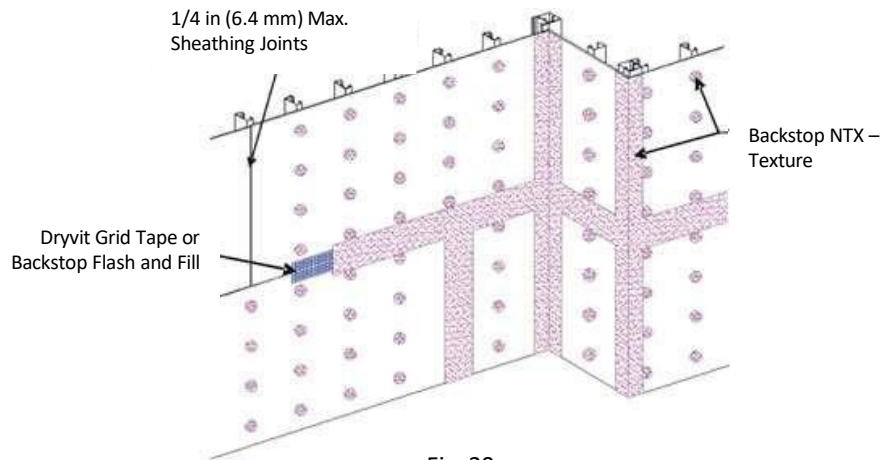

Fig. 20
4. Mix the Backstop NTX – Texture material as described in Section 3.B.2. Using a stainless steel trowel or spatula, apply a layer of Backstop NTX – Texture over the Dryvit Grid Tape and spot all fastener heads – Figure 20. NOTE: Dryvit Grid Tape is not necessary over fastener heads.